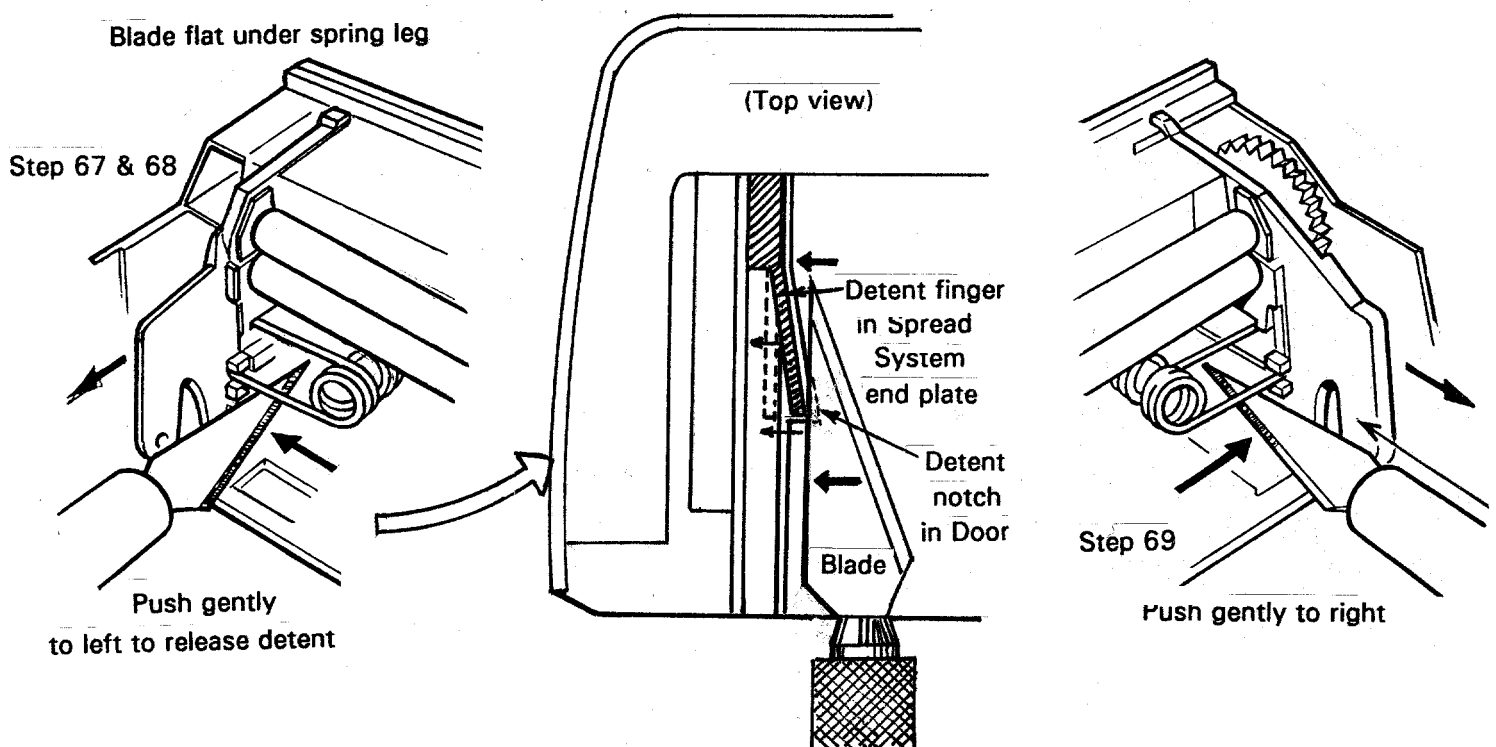

Fig. 54 Removing the Spread System from the Door
67. Remove the Spread System Assembly by inserting an Exacto knife with a #11 blade just below the lower leg of the spring, on the left (non-gear) side (see Fig. 54). Keep the blade flat, in the same plane as the rollers, with the dull edge against the end plate. The tip of the blade should be halfway between the front and rear legs of the spring.
68. Swing the knife handle to the right a little so the tip of the blade pushes to the left, against the inside of the end plate (Fig. 54). This will unlock the hidden detent in the left end plate from its channel in the door, allowing the left end of the Spread System to be pulled out slightly. **Use care: detent will break off if deflected too far.**